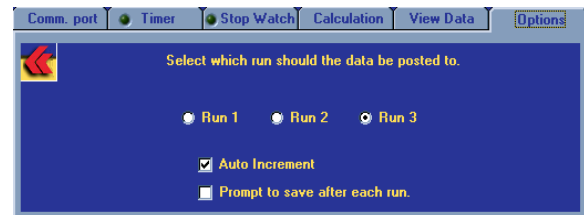

Figure 8: Options Tab
- 8. Options Tab.** The options tab is shown in Figure 8. Under normal operation, the first set of test results will be displayed in the "Run 1" tab on the main screen. Subsequent test results will cycle to the next tab, "Run 2". After "Run 3" the software will cycle back to the first tab, increment the run number to "Run 4" and will continue in this loop until the software program is reset. In the options tab, you may disable this automatic feature by un-checking the "Auto Increment" box. You can then manually select in which "Run Tab" to post the test results. Also in the options tab, you may disable the feature for automatic prompting to save the test data after each run. (Note: If the test data is not saved, the data will be lost and overwritten when the next test is performed).